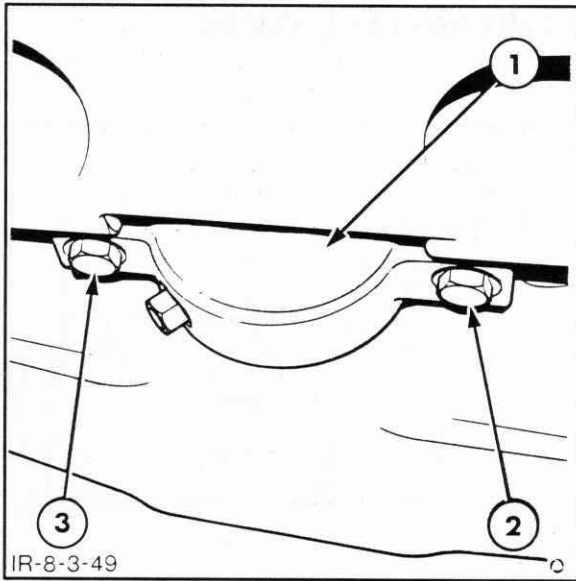

Figure 7-112
8. Loosen both the front and rear support pillar retaining bolts, Figures 7-112 and 7-113. Equally and gradually, lower the jacks or lifting equipment, checking that the axle is stable and secure.